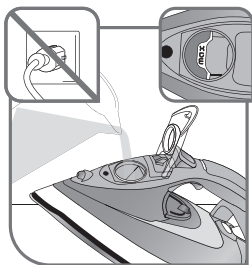

fig.3
- Fill the tank to the "MAX" marking – fig.3.